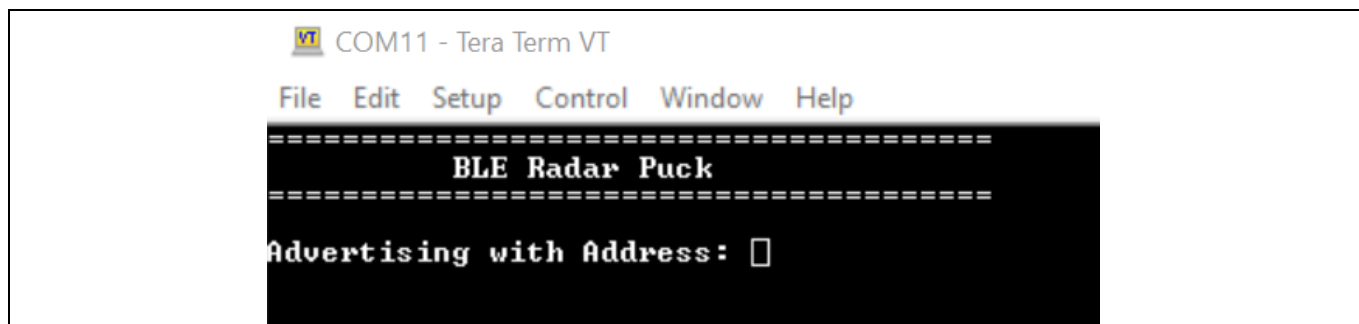

Figure 15 Serial terminal output after device reset
2. Hit the "RESET SW1" button on the dongle with the XENSIV™ Wireless Presence Detection Sensor attached. Figure 15 shows the serial terminal output.